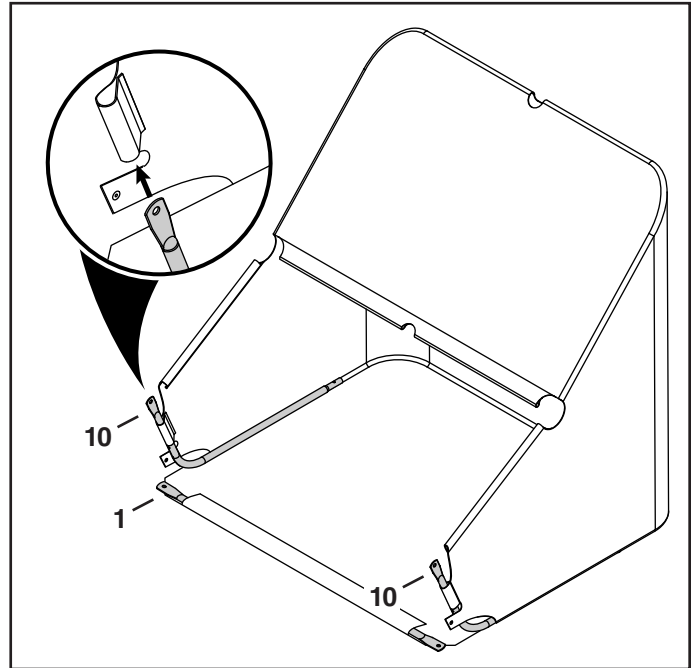

FIGURE 7
- Slide the bag frame tube (1) through the front flap in the bottom of the bag. See figure 7.
- Slide the two lower hopper tubes (10) into the flaps at the front of the hopper bag as shown in figure 7.